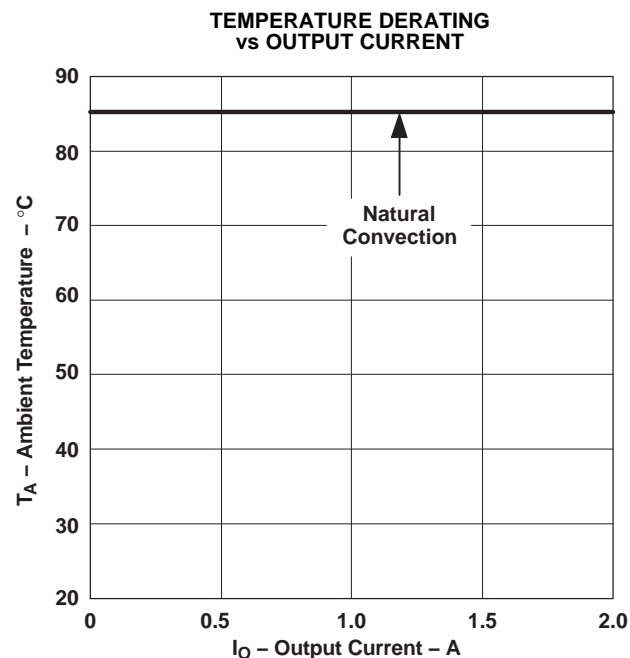

Figure 8.
- (4) The temperature derating curves represent operating conditions at which internal components are at or below manufacturer's maximum rated operating temperature. Derating limits apply to modules soldered directly to a 100-mm \times 100-mm, double-sided PCB with 2 oz. copper. For surface mount packages, multiple vias (plated through holes) are required to add thermal paths around the power pins. Please refer to the mechanical specification for more information. Applies to Figure 8.